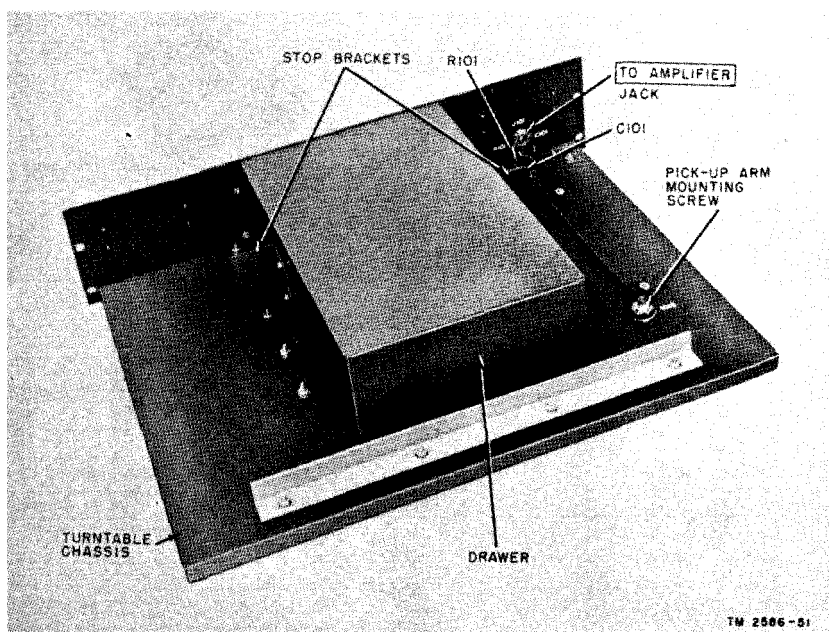
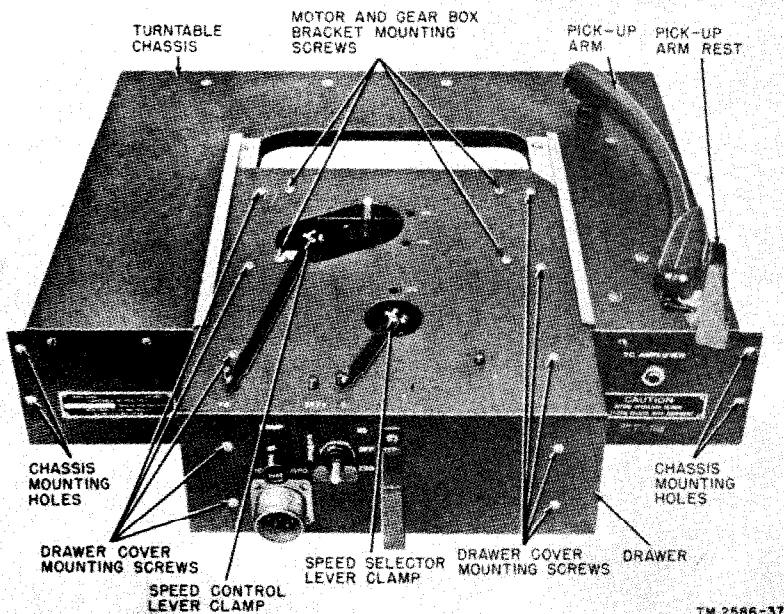

Figure 49. Turntable chassis, bottom view.
Figure 50. Turntable chassis, platen removed.
- (2) Turn the chassis on its side.
- (3) Remove the two screws and lock washers that hold the stop brackets on each side of the turntable drawer (fig. 49). Remove the stop brackets.
- (4) Remove the turntable drawer from the chassis.
- (5) Remove the turntable platen by removing the clip from the top of the turntable platen. Insert a screwdriver into the hole of the clip and slide the clip away from the center pin. Remove the clip.
- (6) Remove the turntable platen by lifting it straight up.
- (7) Remove the speed selector lever (fig. 50) by loosening the clamping screw at the end of the lever and lifting up the lever.
- (8) Remove the speed control lever (fig. 50) by loosening the clamping screw from the end of the lever and lifting up the lever.
- (1) Remove the 10 drawer cover mounting screws, washers, and nuts that hold the cover (fig. 50) to the gear and motor unit, and remove the cover.